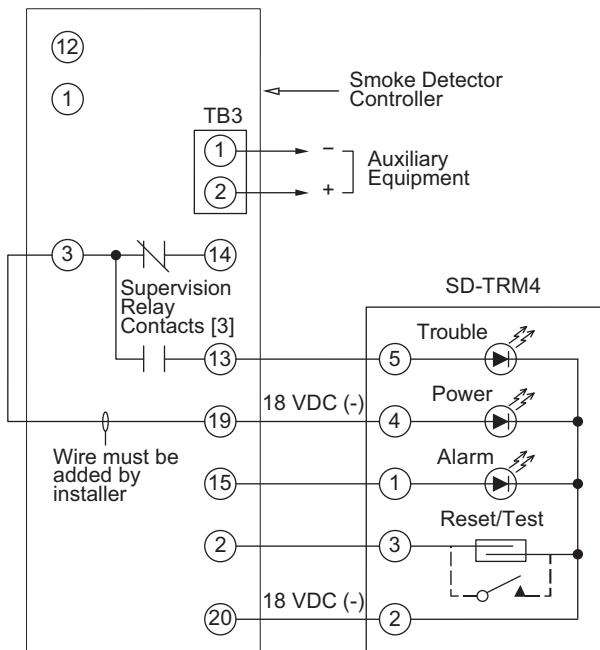

Fig. 44 – Remote Test/Reset Station Connections
The test/reset station dirty sensor test checks the test/reset station's ability to initiate a sensor dirty test and indicate the results. It must be wired to the controller as shown in Fig. 44 and configured to operate the controller's supervision relay. For more information, see "Dirty Sensor Test" on page 31.
1. Verify that the remote test/station is wired as shown in Fig. 44. Repair or replace loose or missing wiring.